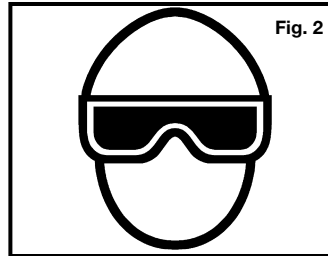

Fig. 2
**2. Operator and others in work area MUST wear safety glasses with side shields.** These safety glasses must conform to ANSI Z87.1 requirements (approved glasses have "Z87" printed or stamped on them). Fig. 2.